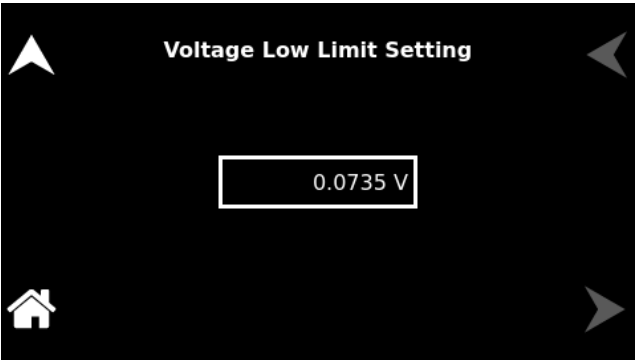

Figure 10-39. Voltage Low Setting
**Voltage Low Limit** Users can set a voltage low limit value, which functions as trip limit (CC and CC/CP), or it regulates (CC/CV) the output upon reaching the Voltage Low Limit. Refer to Figure 10-39.